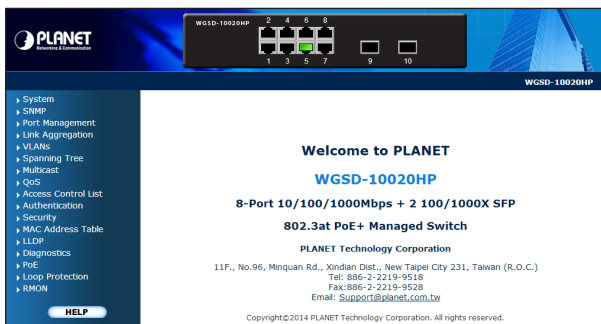

Figure 6-3: Web Main Screen of Managed Switch
3. After entering the password, the main screen appears as Figure 6-3 shows.